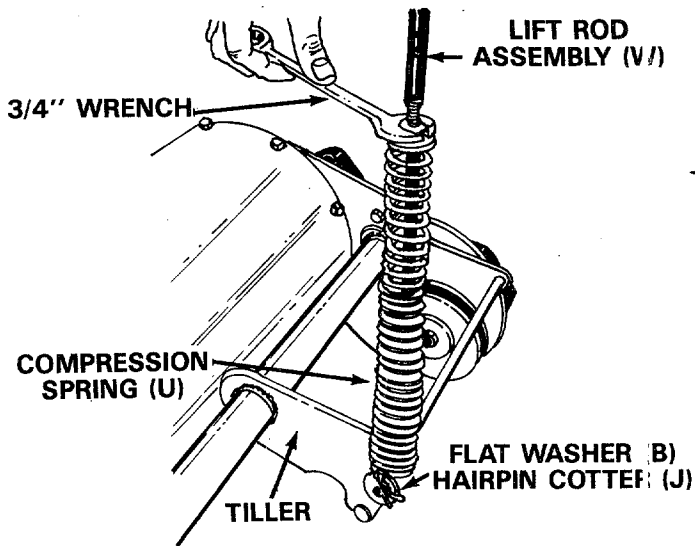

FIGURE 8
16. Place the large compression spring (U) over the slotted end of lift rod assembly (W).
17. Place slotted end of lift rod (with spring attached) over the rod on right hand side of tiller as shown in figure 8. Secure with flat washer (B) and hairpin cotter (J).
18. Using a 3/4" or adjustable wrench, tighten the hex nut which is on the lift rod assembly until the spring is compressed to 11" long (pages of this manual are 11" long). See figure 8.